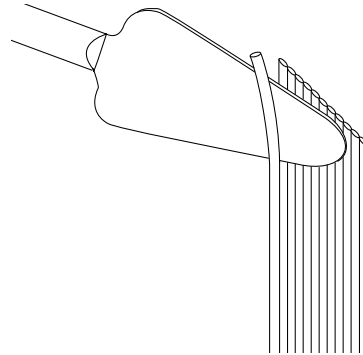

Figure 19
Step 5: Using a spatula or finger nail, start to separate the longest fiber away from the rest of the ribbon (Figure 19).